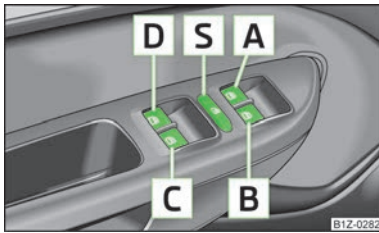

Fig. 18
- It is recommended to deactivate the electrically operated power windows in the rear doors (safety pushbutton) **S** » Fig. 18 on page 35 when children are being transported on the rear seats.
The buttons for the individual windows are located in the armrest of the driver's door » Fig. 18, front passenger seat and in the rear doors » Fig. 19 on page 36.
The buttons for power windows in the rear doors can be deactivated by pressing the safety pushbutton **S** » Fig. 18. The buttons for the power windows in rear doors are activated again by pressing the safety pushbutton **S** again.